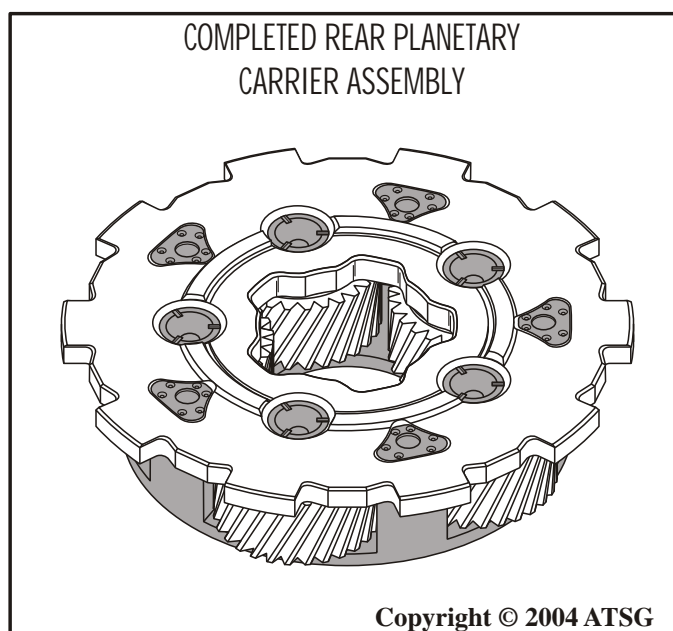

Figure 104
1. Inspect the rear planetary carrier carefully for any wear and/or damage (See Figure 104).
2. Set completed rear planetary carrier assembly aside for the final assembly process. Refer to Figure 104.